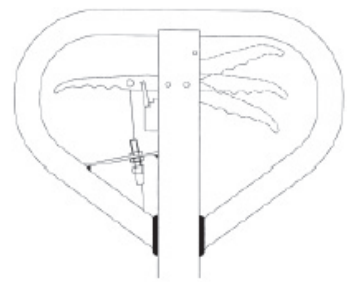

Fig. 5
If necessary, you can adjust the lever according to following steps (fig. 5):
- c) If the forks do not descent when the control handle is in the **Lower** position, turn the adjusting nut clockwise until raising the control handle lowers the forks. Then check the **Neutral** position according to fig. 5 and be sure that the adjusting nut is in the proper position.